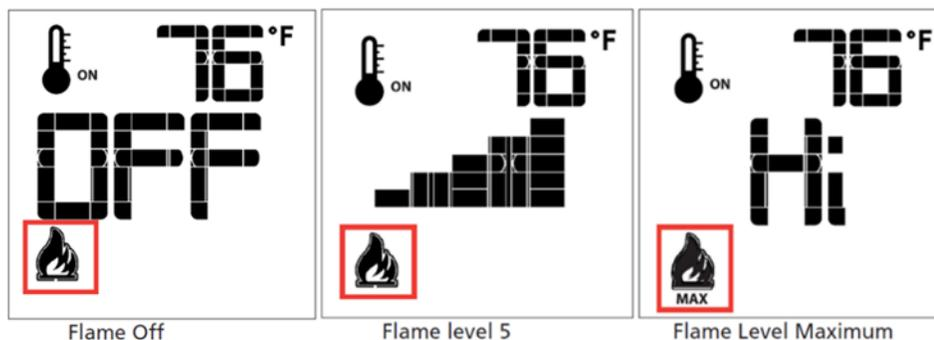

FIGURE 10
The system has six (6) flame levels. See (**Figure 10**) for an example. With the system on, and the flame level at the maximum in the appliance, pressing the Down Arrow Key once will reduce the flame height by one step until the flame is turned off. The Up-Arrow Key will increase the flame height each time it is pressed. If the Up Arrow Key is pressed while the system is on, but the flame is off, the flame will come on in the high position (**Figure 10**). A single "beep" will confirm reception of the command.